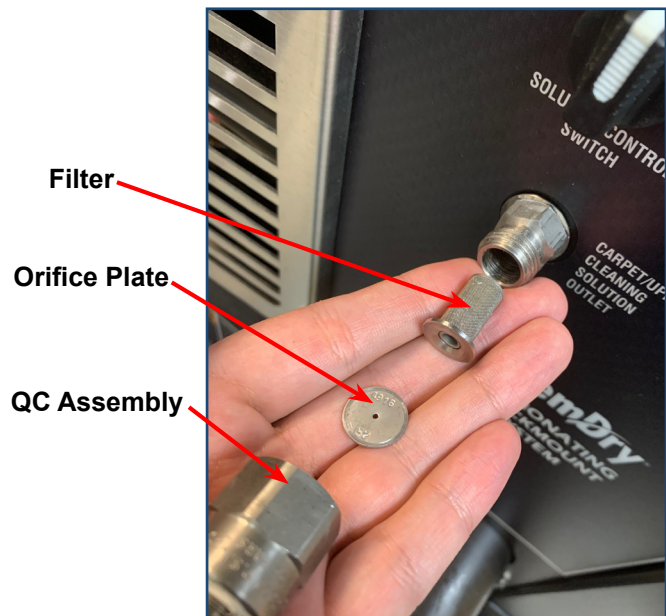

Figure 15. Remove Filter and Orifice
4. Remove the filter and orifice (see Figure 15).